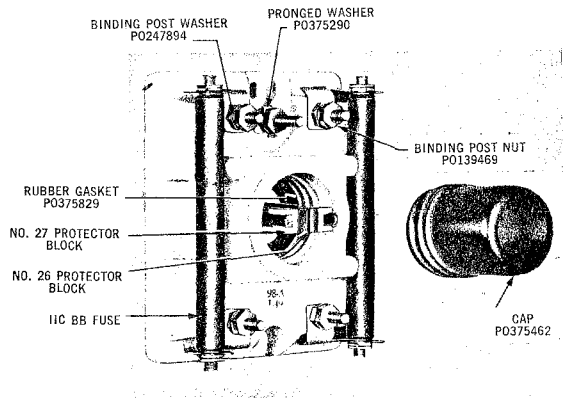

Fig. 2 — 98A Protector
**2.02 98A Fused Protector** (Fig. 2) consists essentially of a base of insulating material equipped with two No. 11CBB fuses and two each No. 26 and 27 protector blocks. The 98A Fused Protector is used only when conditions described in Paras. 7.02, 7.03 and 7.06 cannot be met.